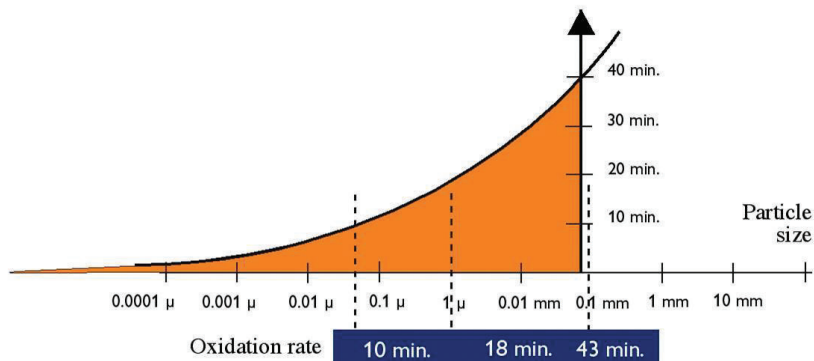

Figure 2. Particle size vs. degradation rate
Bacteria are only capable of degrading small, dissolved organic substances and have considerable difficulties with larger material and toxic substances from the wood or paper process. Therefore, effluent fed from primary sedimentation to the biological treatment process often has an unsuitable composition. The larger fraction, measured as suspended solids (SS), often simply passes directly through the primary sedimentation increasing the need for aeration and excess bio sludge-handling (Figure 2). Treating the incoming primary effluent before the biological process highly reduces the high-molecular COD fraction, leaving the low-molecular COD to be efficiently degraded in the subsequent biological treatment.